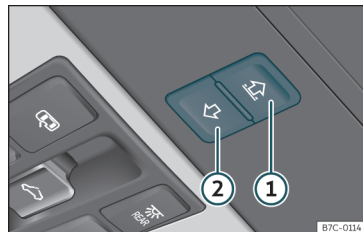

Fig. 85 On the interior roof lining: sunshade blind buttons.
Buttons >>> Fig. 85 ① and ② have two levels. The first level opens or closes the sun blind fully or partially.
- *Sun blind*: within approximately 5 seconds of having activated the anti-trap function, press button **>>> Fig. 85**  until the sun blind closes completely.